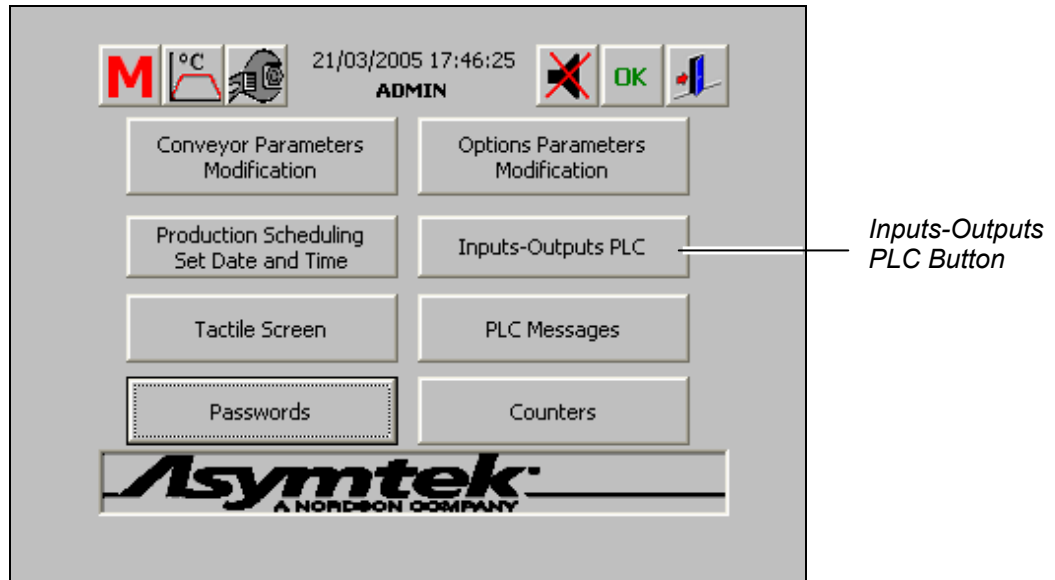
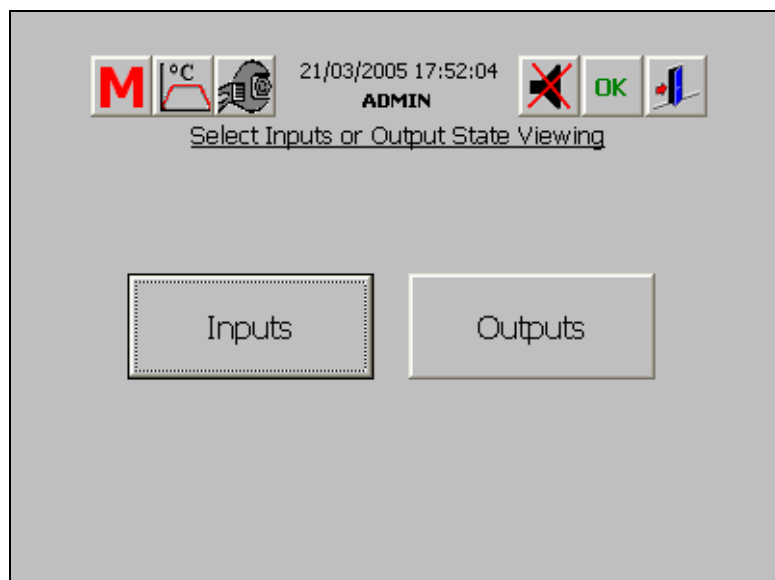

Figure 6-21 Control Menu – Inputs/Outputs PLC
Figure 6-24 Outputs Selection Screen
1. To view the input status of the PLC, from the Control Menu, click on the **Inputs-Outputs PLC** button (Figure 6-21).
1. To view the Output Status of the PLC, click the **Inputs-Outputs PLC** button, on the Control Menu (See Figure 6-21). The Input/Output Selection screen appears (Figure 6-24). Click on the **Outputs** button.